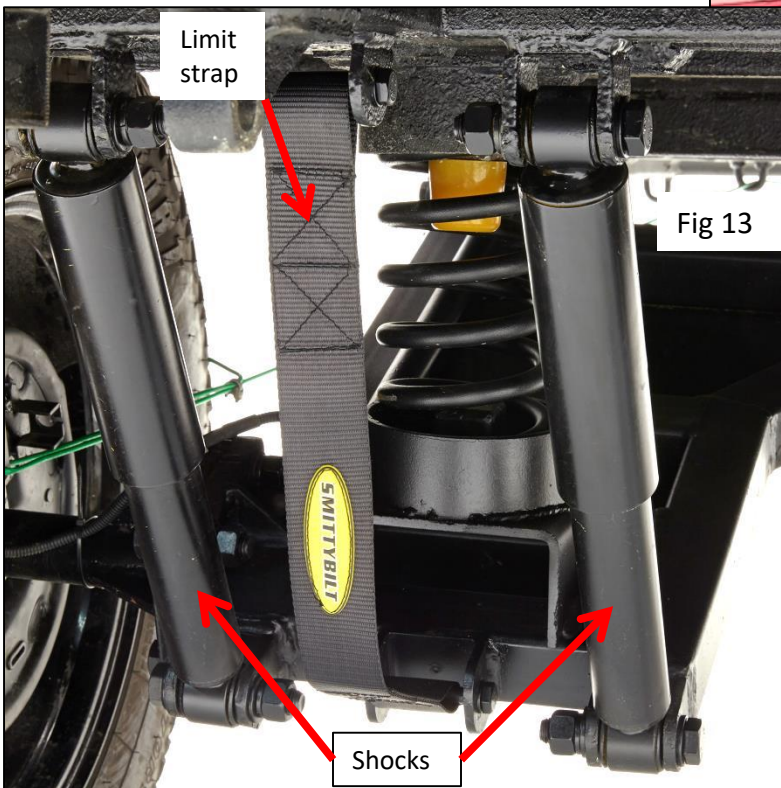

Fig 13
18. Install limit strap into middle mounts on trailing arm and trailer body. Use M10 hardware. Its easiest to put the limit strap into position, then insert bolt into mount. The bolt will go in at a slight angle when first started, then will straighten out when going thru the second mount. Apply thread locker to threads and tighten to 25 ft/lbs. Take care to not over tighten. Fig 13.
19. Install shocks into the outer mounts on the trailer arm and trailer body. Use M16 hardware to attach them. Do not tighten this hardware till you have the full weight of the trailer supported on the suspension. Its best to tighten after the tires and wheels have been installed and are supporting the trailer. If shocks are tightened without weight of trailer on suspension you will bind the bushings which may cause squeaking and will accelerate wear on the bushings. Lube bushings and the area in which bushings make contact with trailer body and trailing arm mounts with lithium based grease. Apply thread locker to threads. Fig 13. You will torque these bolts to 85 ft/lb.